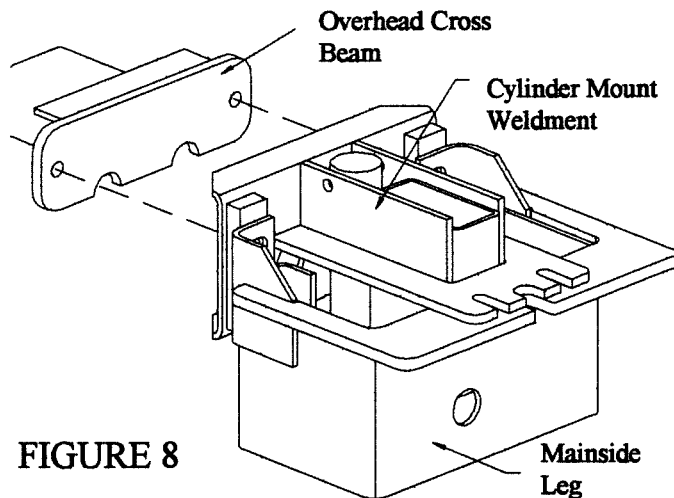

FIGURE 8
13. Raise the overhead beam and secure it to the top of the legs using the two 1/2 x 2-1/2 NC bolts that already secure the front of the cylinder mount weldment to the leg. See Figure 8 on the following page.